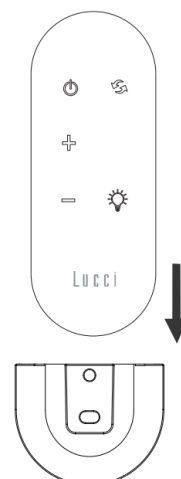

Fig. 15b
- Slide the remote into the holder to rest the remote. (Fig. 15b)